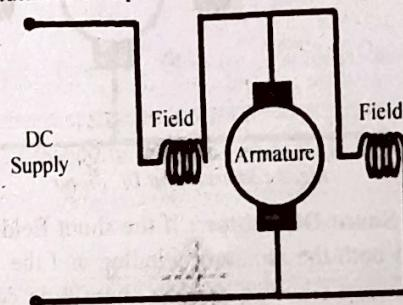

Fig. 6 : Cumulative Compound DC Motor
3. Compound Wound DC Motor : The compound excitation characteristic in a DC motor can be obtained by combining the operational characteristic of both the shunt and series excited DC motor. The compound wound self excited DC motor or simply compound wound DC motor essentially contains the field winding connected both in series and in parallel to the armature winding as shown in the fig. 6.